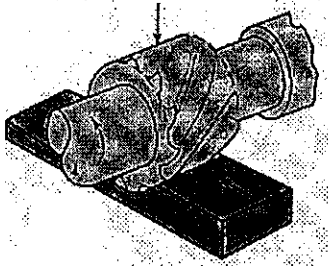

Figure 7
- (a) What is the name of the machining process shown in Figure 7? Which are the basic properties required for the cutting tool material? Give your reasons. (5 marks)